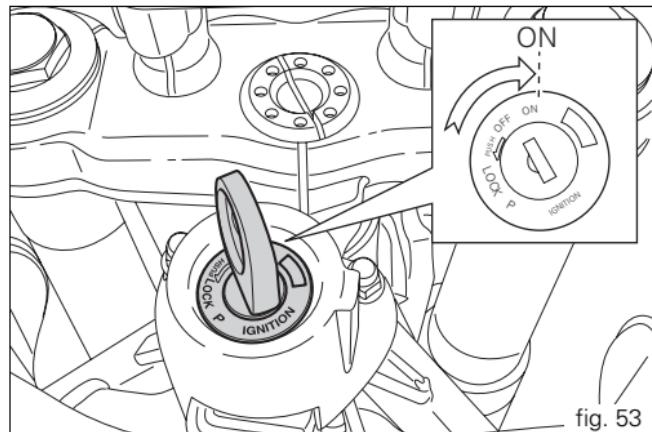

fig. 53
- 1) Turn the ignition switch to ON (fig. 53). Check that both the green light N (8, fig. 4) and the red light  (7, fig. 4) on the instrument panel come on.